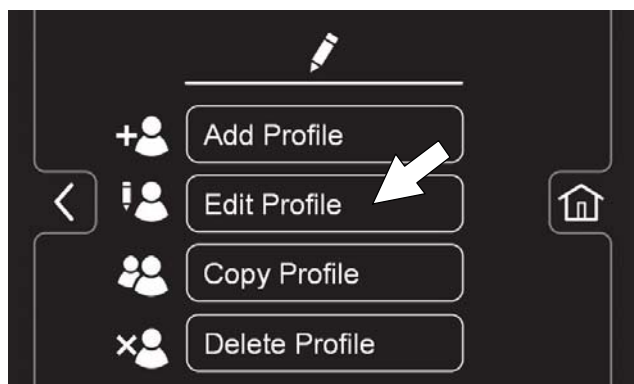

FIG. 184
3. Press the Edit Profile button (Figure 184).